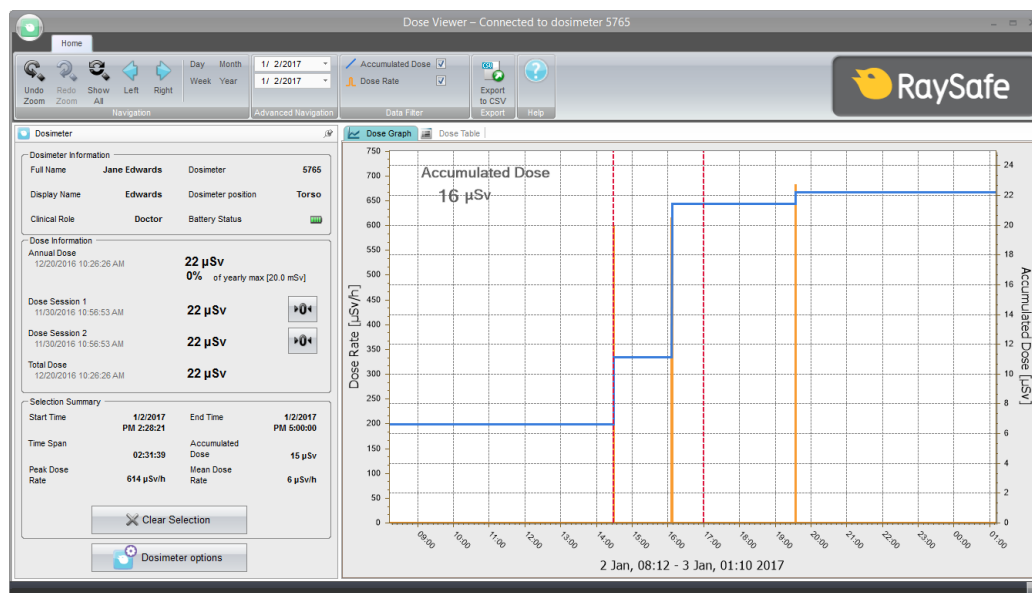

Figure 17. Dose Viewer with a dosimeter connected.
2. Dose Viewer will detect the dosimeter within a few seconds. Ensure that dosimeter information and dose history is presented in the main window (Figure 17).